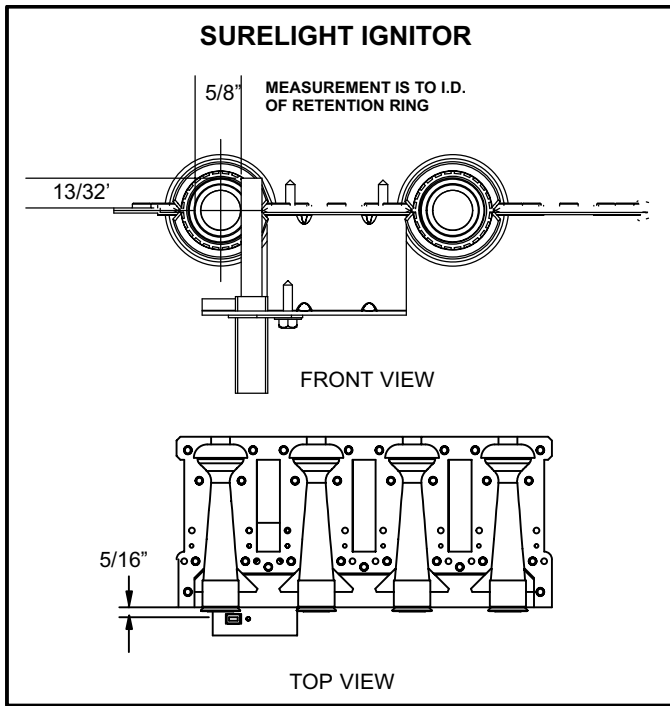
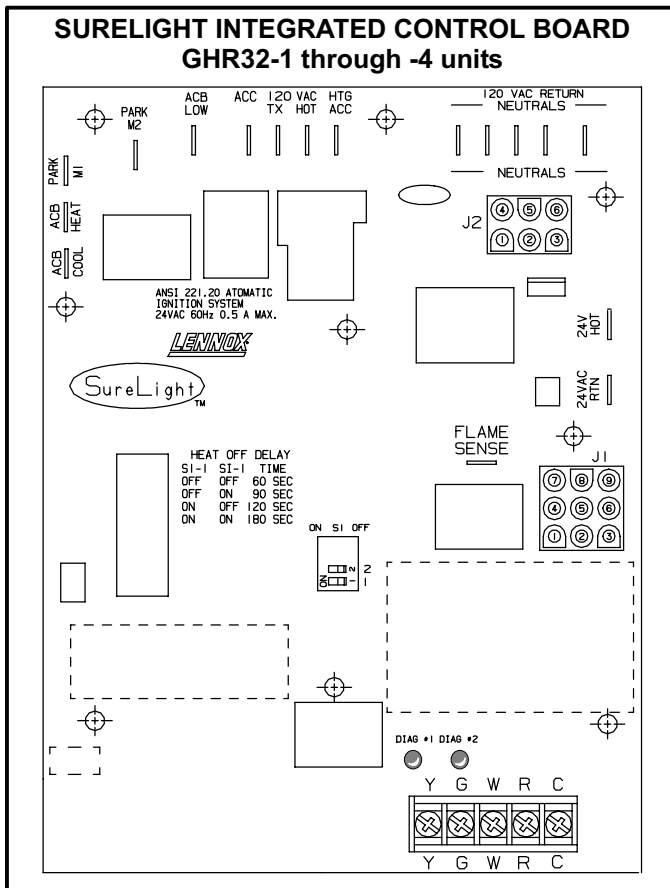

FIGURE 8
FIGURE 9
All GHR32-1 through -4 units are equipped with the Lennox SureLight ignition system. The system consists of ignitor (figure 8) and ignition control board (figure 9 and table 3). The board and ignitor work in combination to ensure furnace ignition and ignitor durability. The SureLight integrated board controls all major furnace operations. Table 1 and 2 show jack plug terminal designations. shows control board terminations. The board also features two LED lights for troubleshooting and two accessory terminals rated at (1) one amp. See table 4 for troubleshooting diagnostic codes. Units equipped with the SureLight board can be used with either electronic or electro-mechanical thermostats without modification. The SureLight ignitor is made of durable silicon nitride. Ignitor longevity is also enhanced by voltage ramping by the control board. The board finds the lowest ignitor temperature which will successfully light the burner, thus increasing the life of the ignitor.